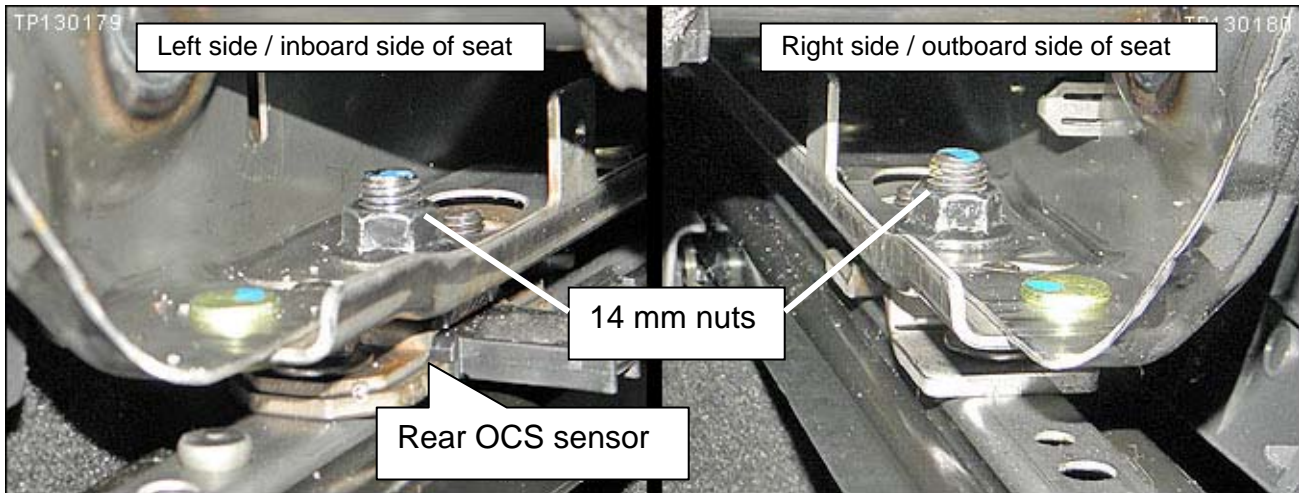

Figure 12
9. From under the rear of the seat, install both rear 14 mm nuts **finger tight only** (see Figure 12).